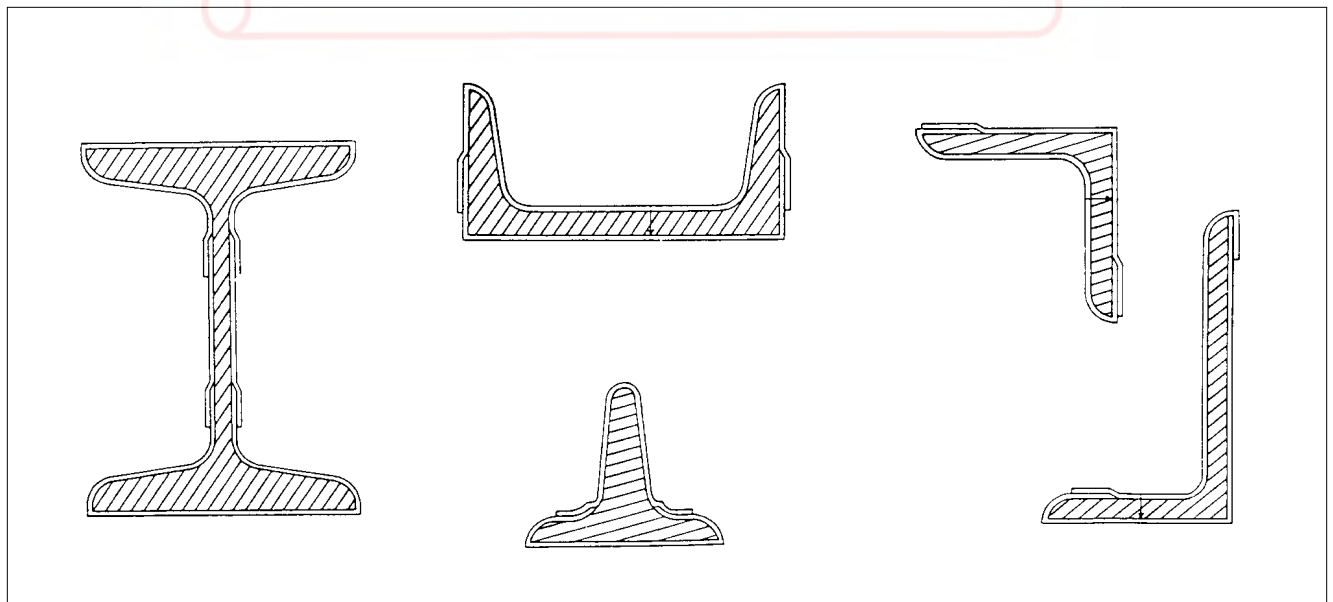

Figure 3
- 10.2 Use Denso Hi-Tack Primer & Denso Hi-Tack Tape which permit overlaps of at least 1" to be made in a downward direction (weatherboard effect) on vertical surfaces. Minimize the overlaps on the underside of horizontal surfaces (*See Figure 3*).
- 10.10 See Figure 3 for examples.